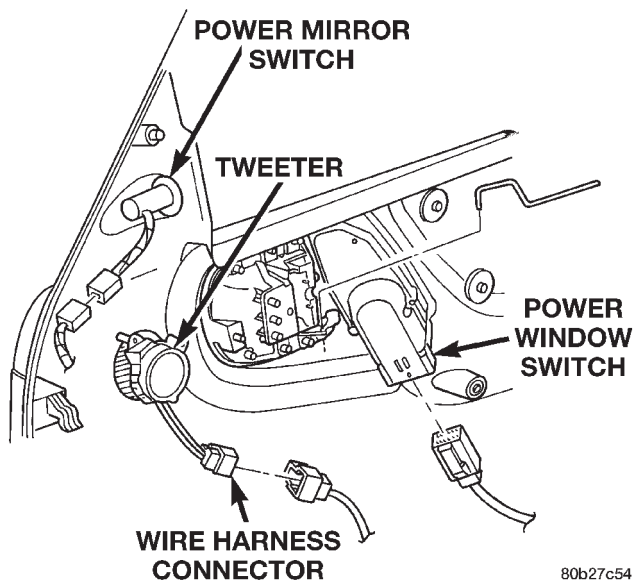

Fig. 5 Door Trim Panel Wire Harness Connectors
(6) Unplug the power mirror switch wire harness connector (Fig. 5).